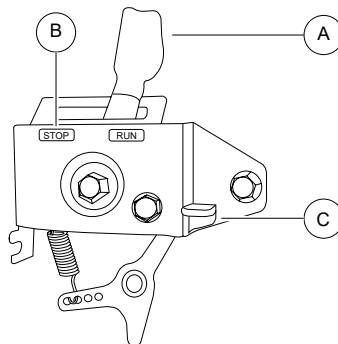

Figure 3-5.Engine Control Level
e. Move the engine control level(A, **Figure 3-5**) to "STOP" position (B, **Figure 3-5**), which make sure to cut off the fuel way. Or push down on the stop lever(C, **Figure3-5**), and the speed control level(A, **Figure3-5**), which is spring-loaded, will move back to the stop position.